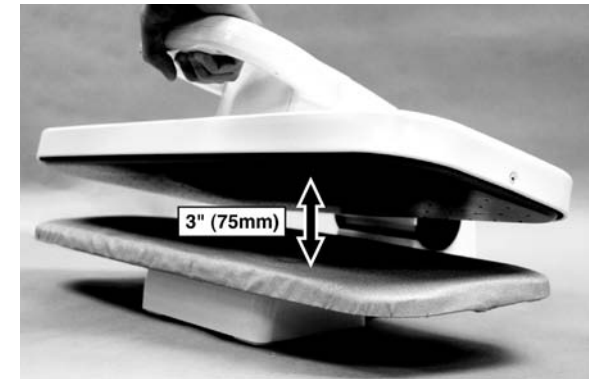

FIGURE 3
2. Hold Pressing Plate approximately 3" (75 mm.) above Ironing Board (FIGURE 3).
CAUTION: Do not use steam burst function when unit is completely closed, as this may cause damage to unit. For best results, hold Pressing Plate open approximately 3" (75 mm.) above Ironing Board when pushing Steam Burst Button (FIGURE 3).